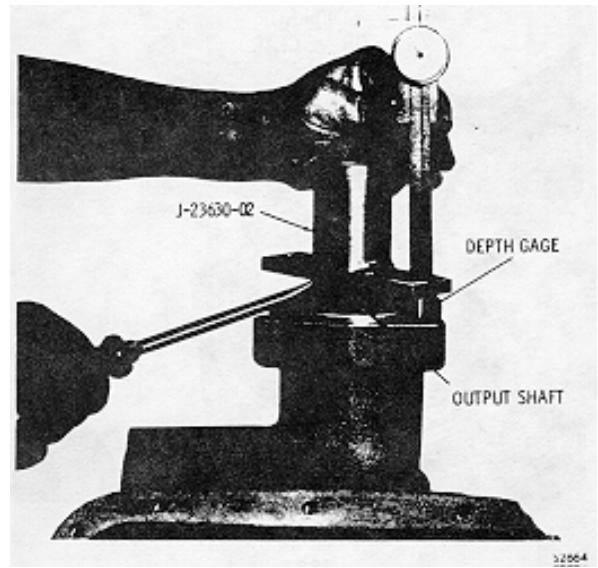

Fig. 7-18. Checking end play of output shaft S2665
(9) Place the first clutch spring compressor base J-23630-02, flange side down on the output shaft (Fig. 7-18). Secure the base to the output shaft with a 1/2-20 bolt. Tighten the bolt to 15 lb ft (20 N m).
(10) Lift the output shaft with a screwdriver (Fig. 7-18) and measure the distance from the top of the flange to the rear of the transmission. Release the output shaft and repeat the measurement. A minimum of 0.015-inch (0.38 mm) and a maximum of 0.042-inch (1.07 mm) is acceptable.
A dial indicator, shown in figure 7-18, or a depth micrometer may be used to establish minimum and maximum measurement.